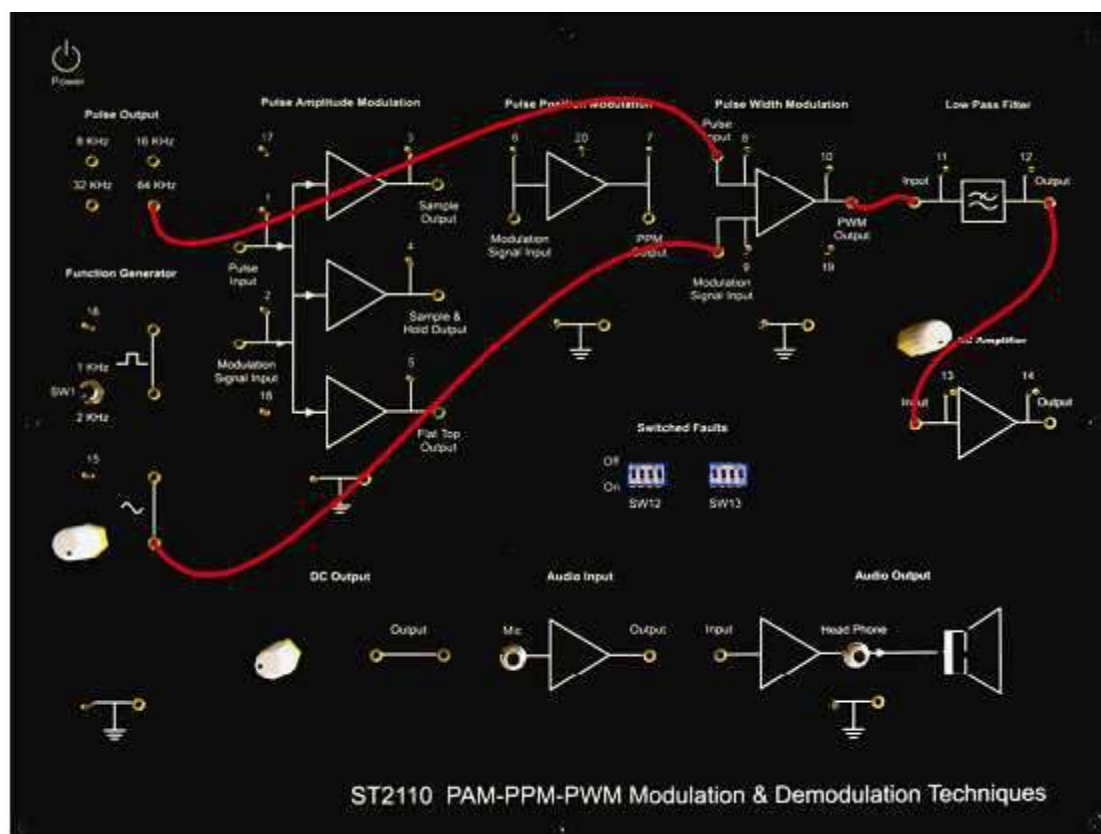

Fig. 5.10b
1. Connect the circuit as shown in Figure 5.10b and also described below for clarity.